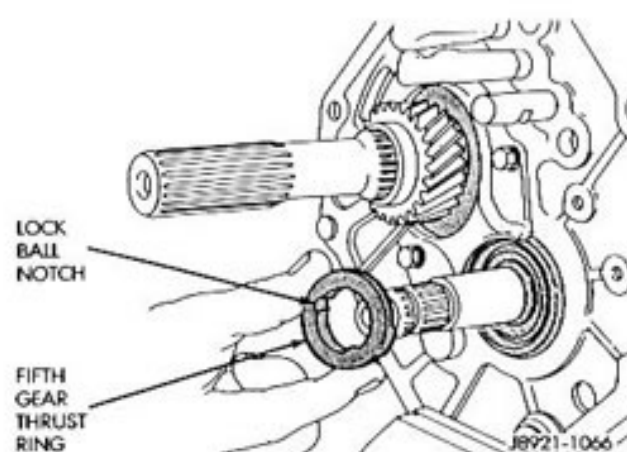

Fig. 36 Removing Fifth Gear Thrust Ring
(17) Remove the counter fifth gear thrust ring (Fig. 36).